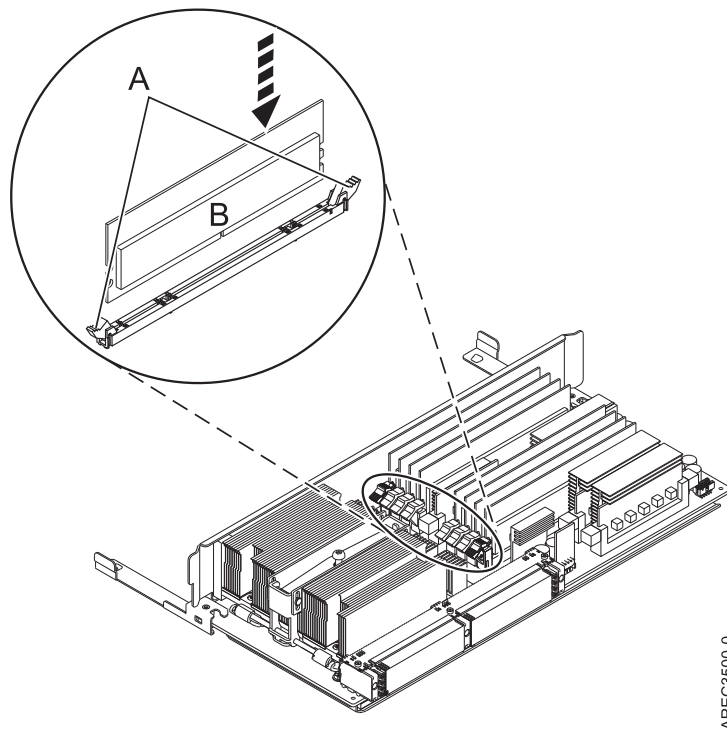

Figure 27. Replacing a memory module
12. Ensure that the connector locking tabs **(A)** are pushed out into the unlocked position, as shown in Figure 27, before installing a new memory module.